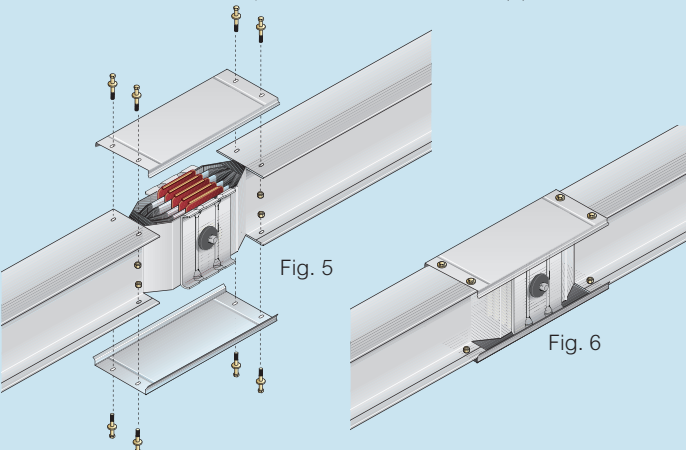

Fig. 5
- 4 Install the junction covers (Fig. 5)